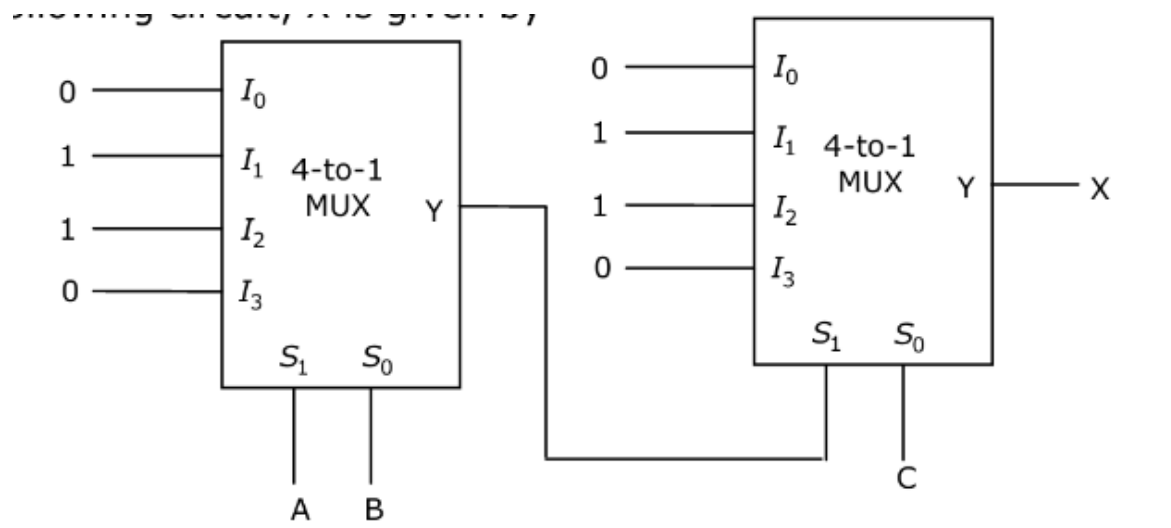

Figure 3.4:
16. Find X in the following circuit in Fig. 3.4